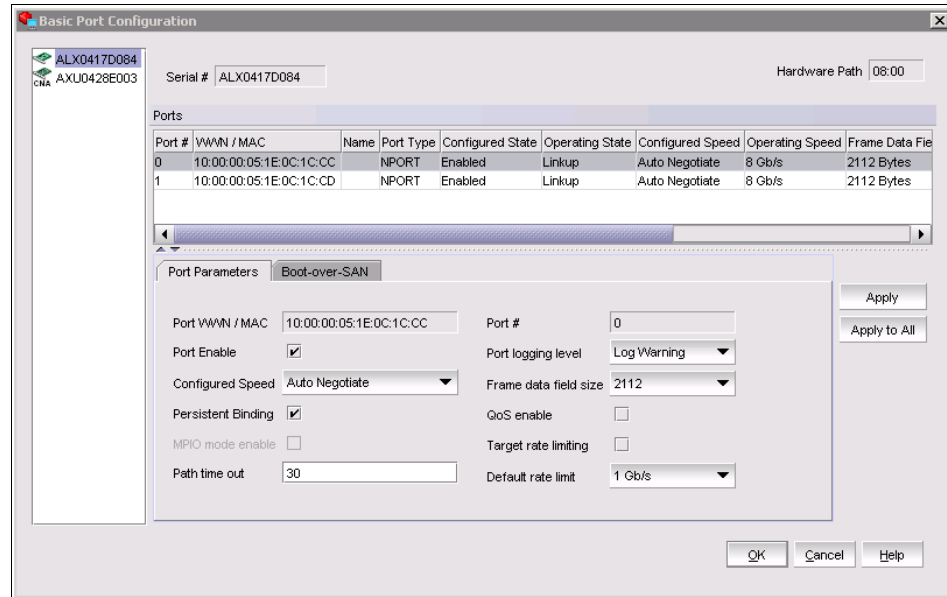

Figure 10-11 Basic Port Configuration dialog box - Windows, Linux, and VmWare
2. Select **Configure** → **Basic Port Configuration** from the main menu. The Basic Port Configuration dialog box displays (Figure 10-11).